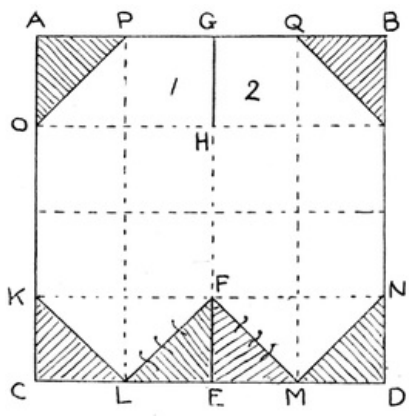
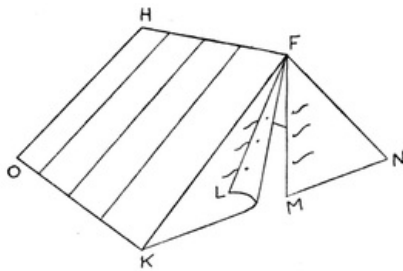

FIG. 38
FIG. 39
**Some Simple Tents.** A good imitation of an "A" tent can be made by little ones from a square. Several of these make an excellent encampment for toy soldiers. Fold and cut square as in Fig. 38. To fasten it together paste square 1 to square 2; this forms the back of the tent; edges P O, K L, etc., rest along the ground. Corners L and M must be bent back to form the entrance. Pieces of cotton are fastened along F M and F L for straps for lacing up the entrance (see Fig. 39).